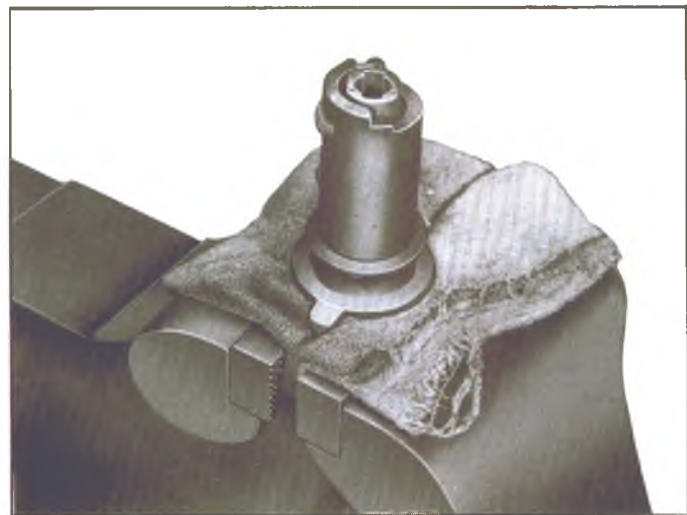

Fig. 57—Ignition Lock Cylinder Installed in a Vise
5. Place the lock in a brass jawed vise or between two pieces of wood (fig. 57).